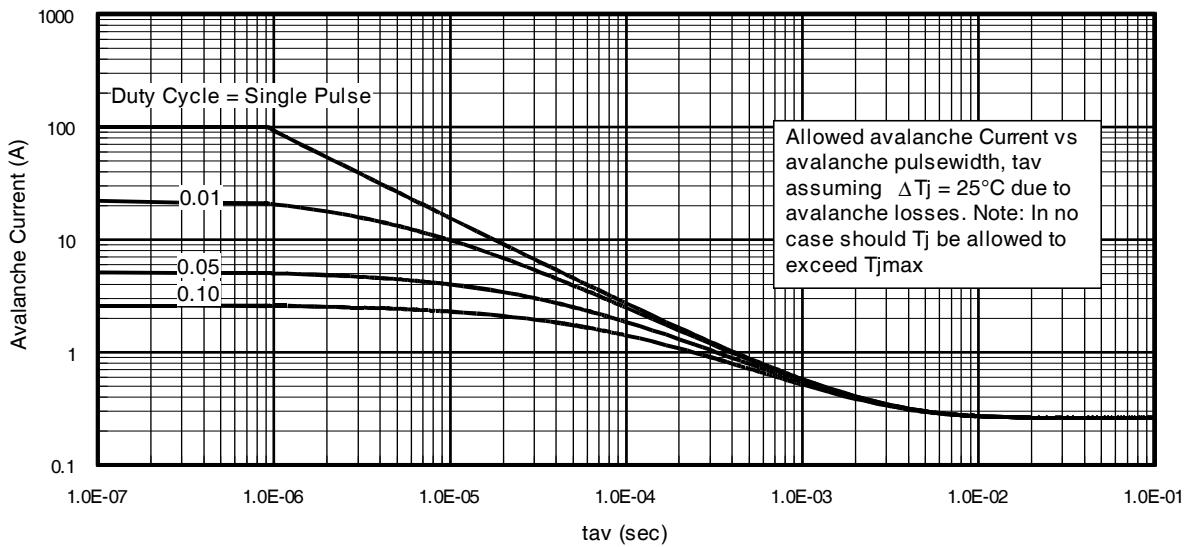

Fig 15. Typical Avalanche Current Vs.Pulsewidth
**Notes on Repetitive Avalanche Curves , Figures 15, 16:
7. $\Delta T = \text{Allowable rise in junction temperature, not to exceed } T_{jmax} \text{ (assumed as } 25^\circ\text{C in Figure 15, 16).}$